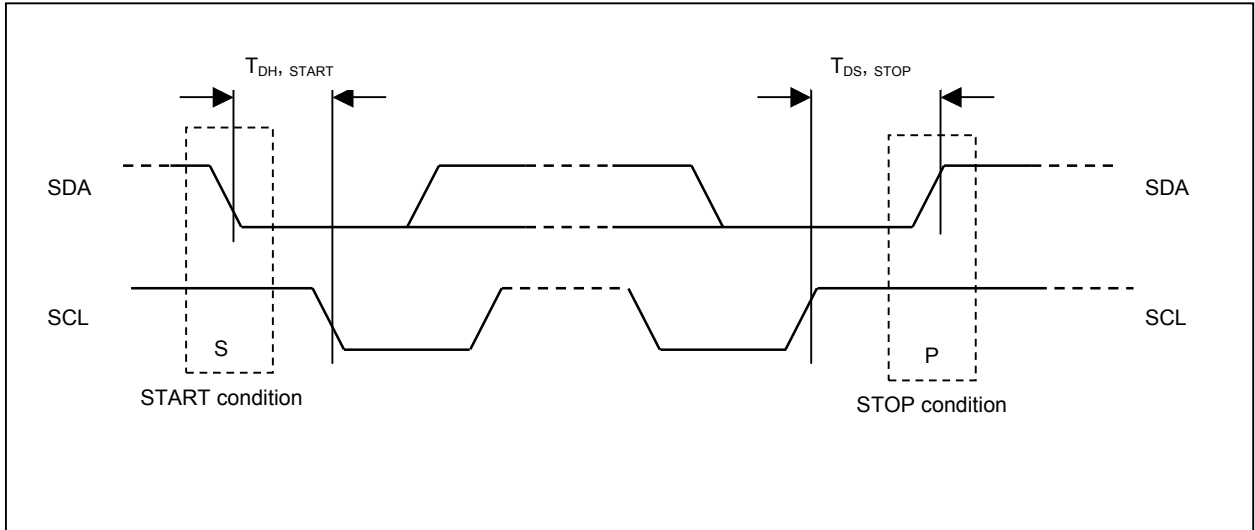

Figure 8 Definition of the start and stop condition
- 1) The master device initiates the data communication by a start condition. The definition of the start condition is shown in figure 8 on page 22. The start condition is established by pulling the SDA from high to low while the SCL stays high.
- 7) The write mode will be finished when a stop condition is applied. The stop condition is also defined in figure 8 on page 22. The stop condition is established by pulling the "SDA in" from low to high while the "SCL" stays high.
- 1) The master device firstly initiates the data communication by a start condition. The definition of the start condition is shown in figure 8 on page 22.
- 6) The read mode will be finished when a stop condition is applied. The stop condition is also defined in figure 8 on page 22.